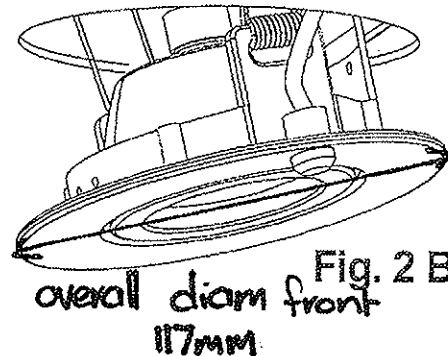

Fig. 2 B
4. Screw the box cover back and install the downlight into the ceiling hole by push the 2 springs upward (ref. to Fig. 2 B)